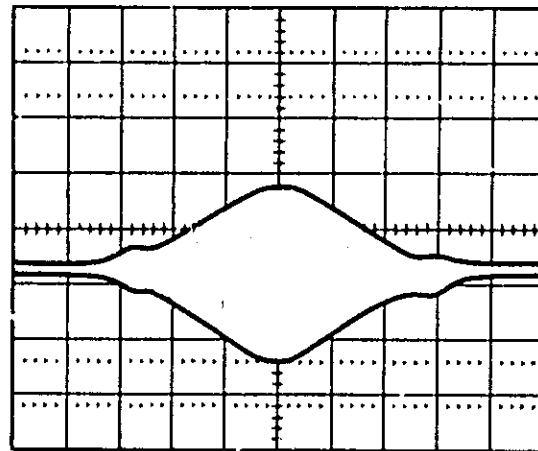

Figure 5-35. 50 MHz Birdie
- Adjust oscilloscope Channel B vernier for a horizontal deflection of exactly 10 divisions. Set 8350A CF = 1 GHz,  $\Delta F$  = 10 MHz. Select 50 MHz Markers. Center the birdie envelope on the screen with plug-in front panel FREQ CAL control. (See Figure 5-35.) Then select 10 MHz Markers. Change  $\Delta F$  to 1 MHz. Recenter birdie. Display is now calibrated for 100 kHz/Division.